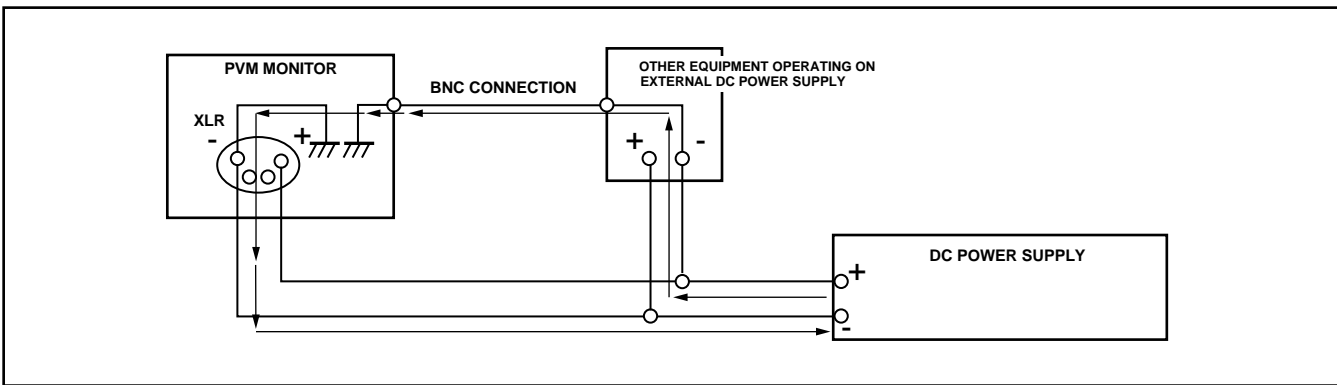

Figure 2
- Connection to external DC power supply is incorrect in connecting either PVM monitor or other DC operating equipment, as both are connected to the same external DC power supply. See Figure 2.